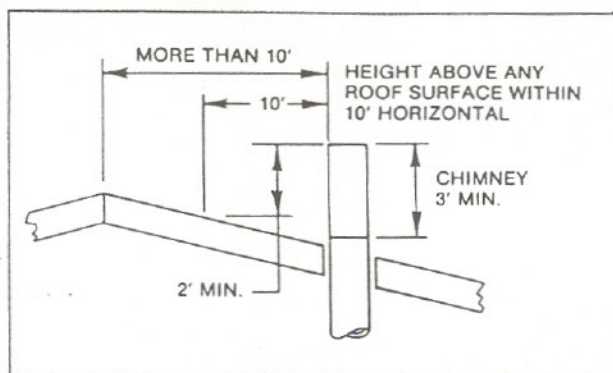

Figure 12
2. If the horizontal distance from the side of the chimney to the peak of the roof is more than 10 feet, a chimney height reference point is established on the surface of the roof a distance of 10 feet from the side of the chimney in a horizontal plane. The top of the chimney must be at least 2 feet above this reference point, but never less than 3 feet in height above the highest point where it passes through the roof. See Figure 12.